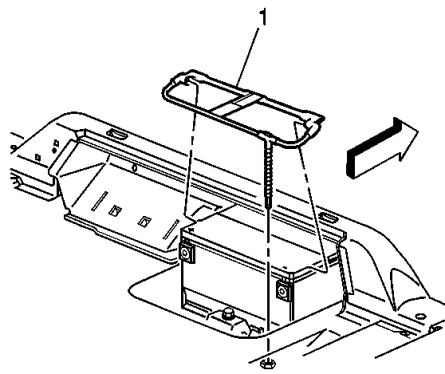

Fig. 4 Battery vent tube removal
7. Remove battery vent tube (1) from battery, **Fig. 4**.
3. Install battery vent tube (1) to battery, **Fig. 4**. Ensure vent tube is properly routed through floor pan grommet.